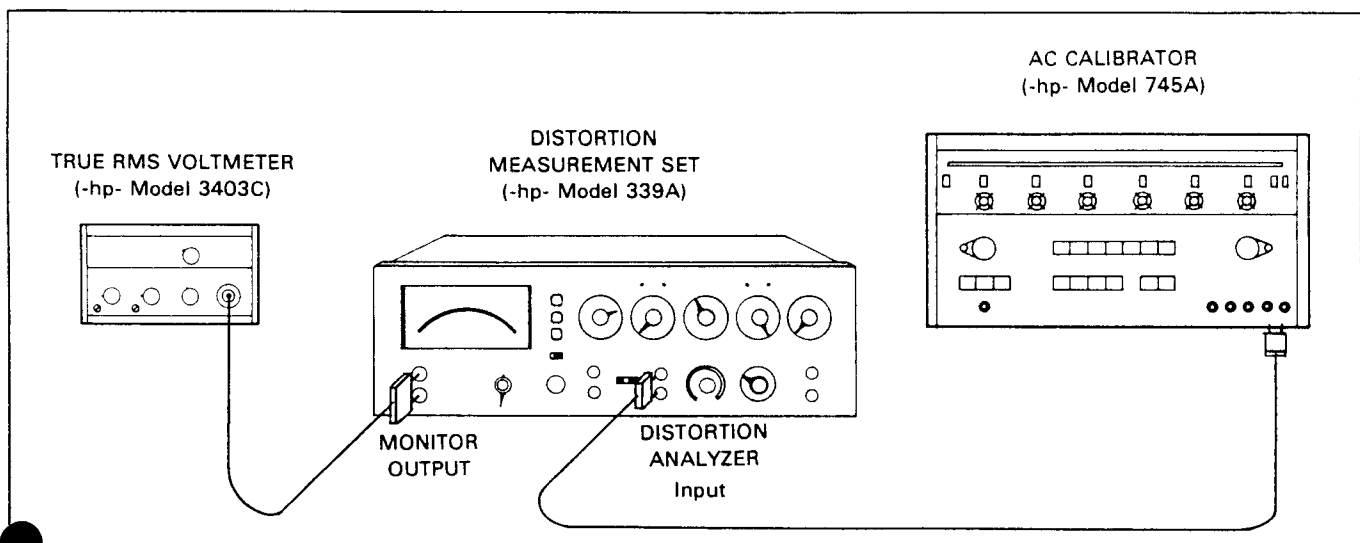

Figure 4-2. Meter Tracking and Monitor Output Accuracy Test.
- d. Connect the equipment as shown in Figure 4-2.